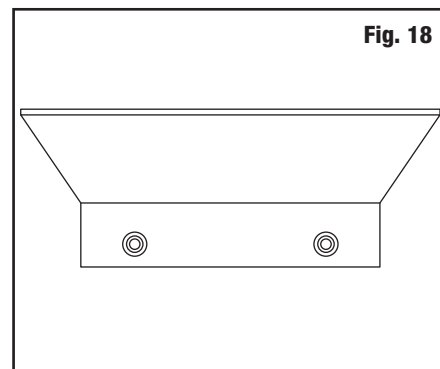

Fig. 18
10. Insert four (4) Wall Mollies into wall holes and hammer flush (Fig. 18).